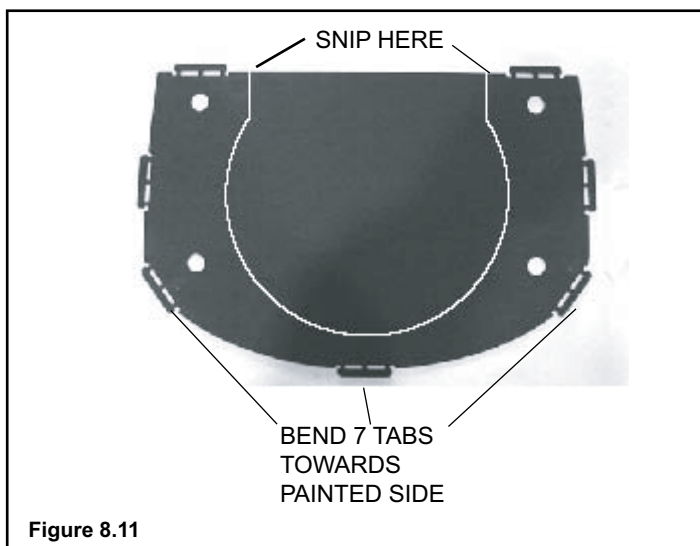

Figure 8.11
1. **For use with top venting:** See **Figure 8.11**, below.